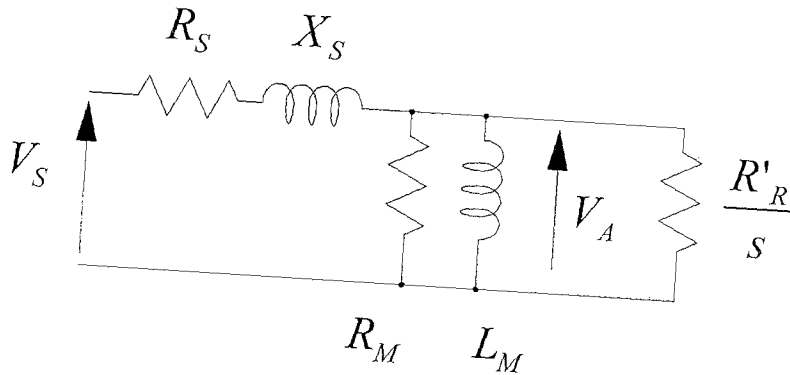

Figure 3 An induction machine equivalent circuit.
- (c) Figure 3 shows an induction machine equivalent circuit that has negligible rotor leakage reactance. It is a three-phase, two pole-pair machine supplied such that the voltage marked V_A is 200V at 50 Hz. The referred rotor resistance is 0.5Ω . Find the value of slip which will give a torque of $T = 50 \text{ Nm}$. [7]